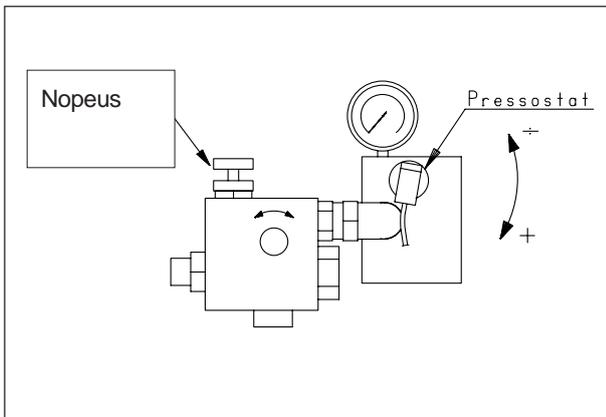

Fig. 61
- f. If red lights are on, screw pressure relief valve (fig. 61) in until lights turn off. Then screw pressure relief valve out again until the lights flash. Now the pressure relief valve is set to reverse rollers at 110 bar.